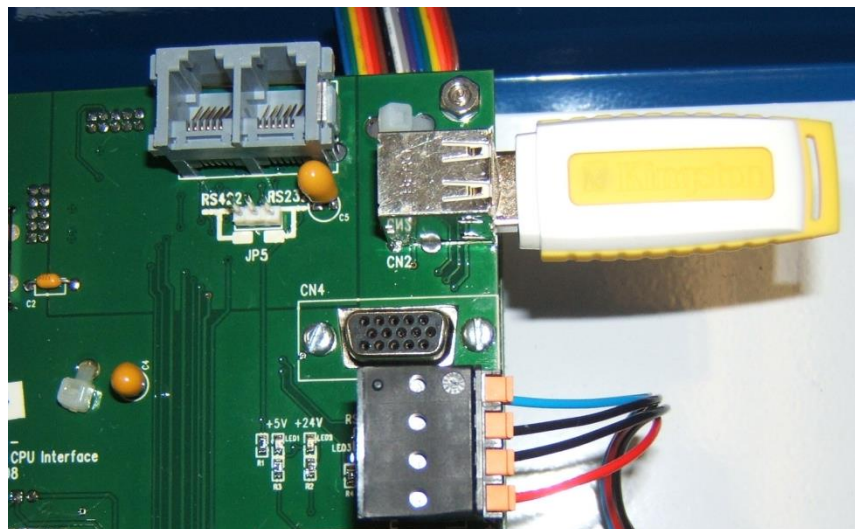

Figure 10: USB stick installation
1. Insert the USB memory stick in the USB port, as shown. (Figure 10)